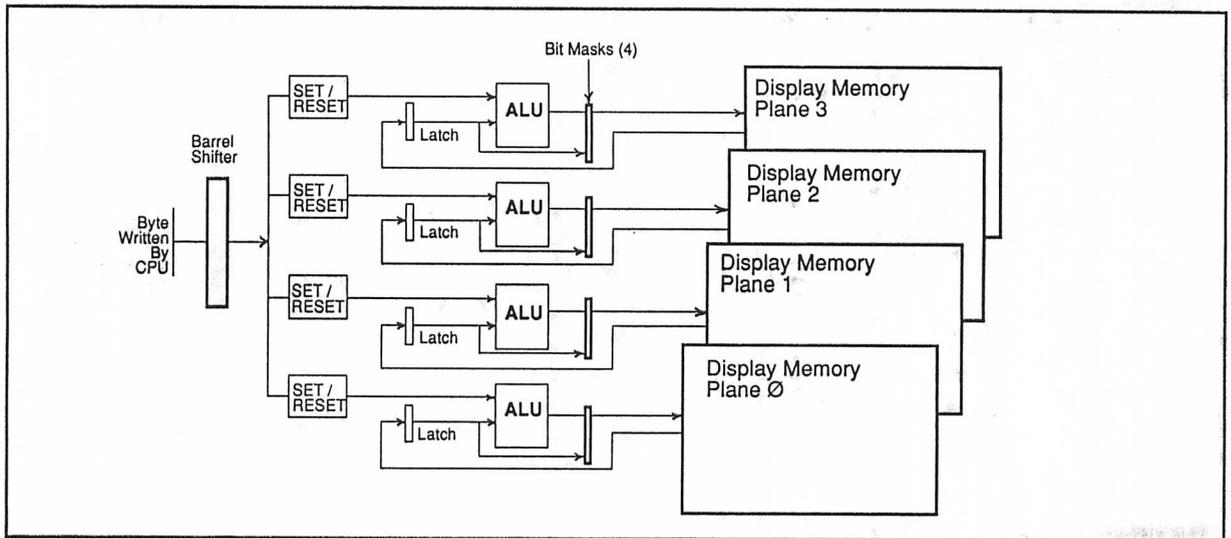

Figure 1: Data flow through the Graphics Controller chips on write mode
At last we come to the final aspect of data flow through the Graphics Controller (GC) on write mode 0 writes, the set/reset circuitry. Figure 1 shows data flow on a write mode 0 write. The only difference between this figure and the similar figure in the last article is that on its way to each plane the rotated CPU data passes through the set/reset circuitry, which may or may not replace the CPU data with set/reset data. Briefly put, the set/reset circuitry enables the programmer to elect to independently replace the CPU data for any or all planes with either 00 or 0FFH.
It is important to understand that the set/reset circuitry directly replaces CPU data in Graphics Controller data flow. Refer again to Figure 1 to see that the output of the set/reset circuitry passes through (and may be transformed by) the ALU and the bit mask before being written to memory, and even then the Map Mask register must enable the write. When using set/reset, it is generally desirable to set the Map Mask register to enable all planes the set/reset circuitry is controlling since those memory planes that are disabled by the Map Mask register cannot be modified, and the purpose of enabling set/reset for a plane is to force that plane to be set by the set/reset circuitry.